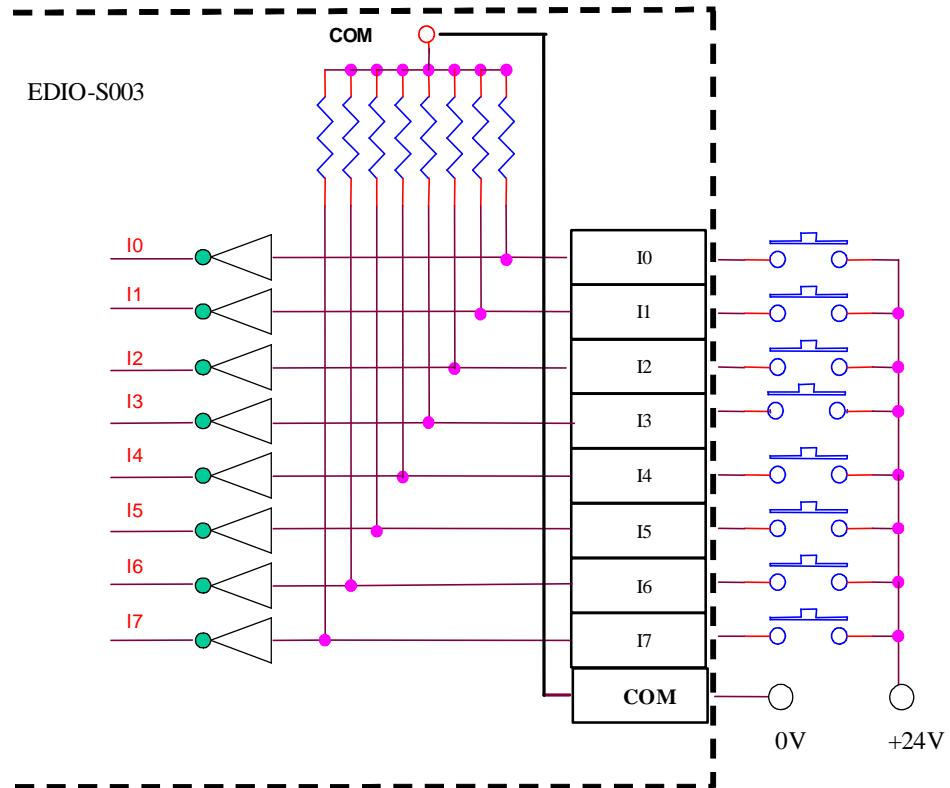

Fig. 9-2 Sink-input type contact wiring
Fig. 9-2 depicts the sink-input type application of the EDIO-S003 input connection wiring. When COM is connected to 0 V, it operates at sink-input type and current flows into the input connections. When one terminal of the SW Button is connected to I0 to I17 and the other terminal is connected to 24 V, the EPCIO/EDIO module will read the status as LOW (0); otherwise it will read the status as HIGH (1).